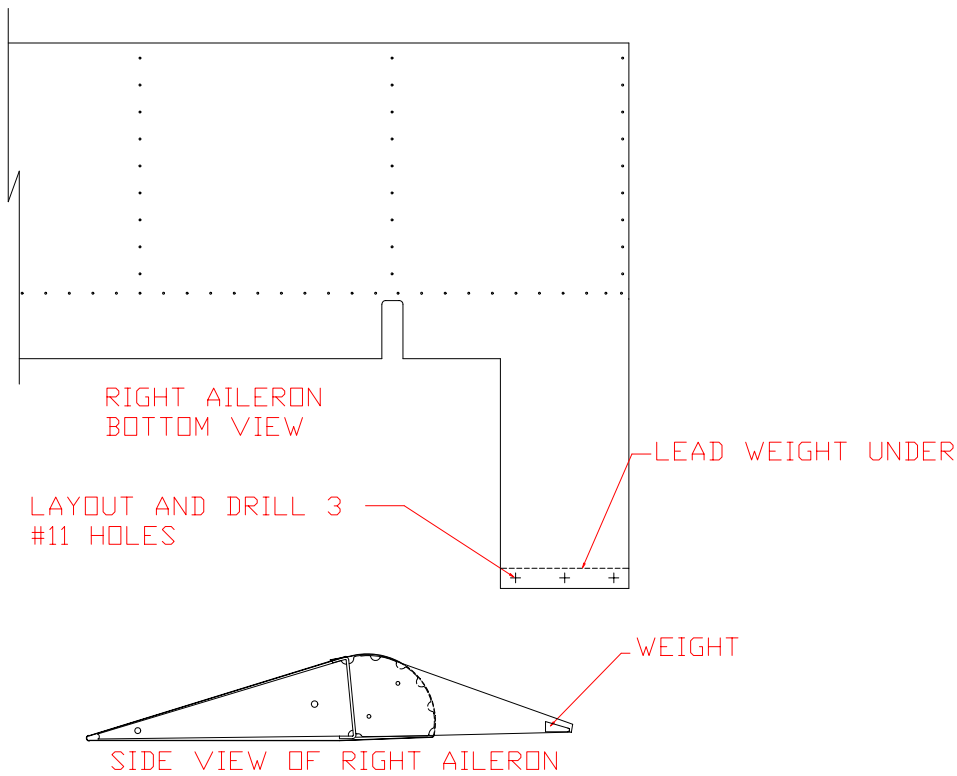
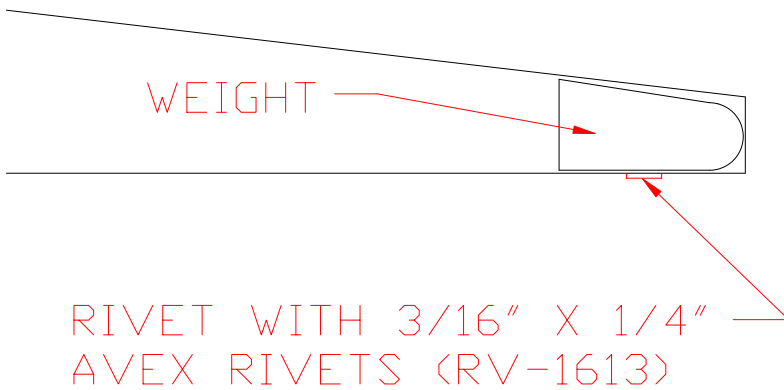

Figure 7.6.6
Figure 7.6.7
- 12) Find the AIL- 405 Aileron Balance Weight and slide it into the nose of the Aileron Spade. Mark it's location on the outside of the Spade skin. Remove the weight. Figure 7.6.6.
13) Layout three evenly spaced holes on the Spade skin (figure 7.6.6) and drill #11 holes through the bottom of the Spade Skin only. Put the weight back in the Spade Skin and transfer the three holes into the weight. Remove the weight again and drill the three #11 holes through the weight. Deburr the weight and the Spade skin. Put the weight back into the Spade Skin and rivet in place using 3/16" avex rivets (RV 1613). Figure 7.6.7.